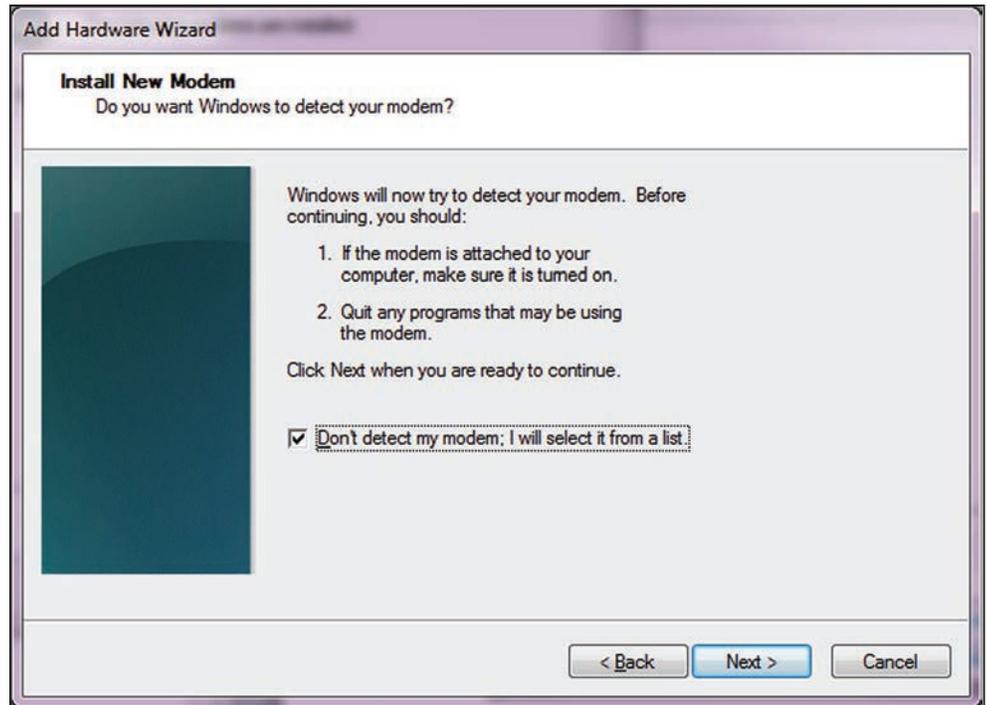

Figure 4. The Add Hardware Wizard dialog box.
STEP 4. In the Add Hardware Wizard dialog box, check “Don’t detect my modem; I will select it from a list,” and click on the **Next** button. See Figure 4.